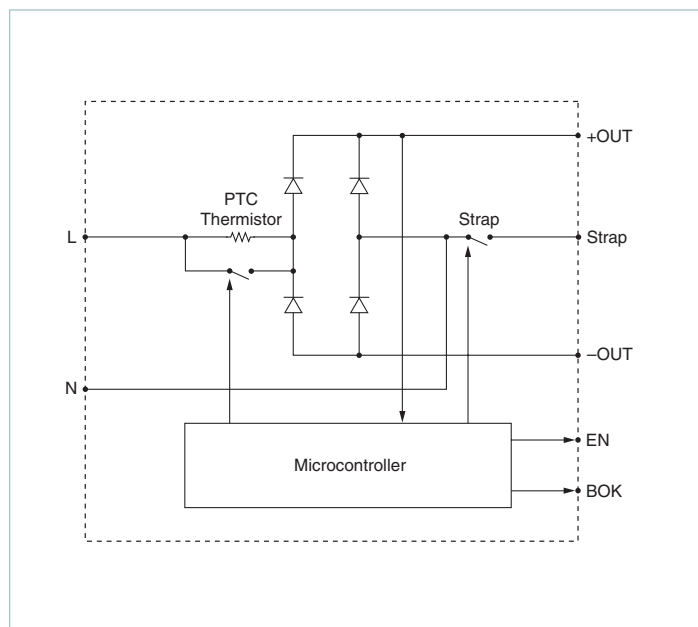

Figure 8 — Functional block diagram
Initial Conditions: The switch that bypasses the inrush limiting PTC (positive temperature coefficient) thermistor is open when power is applied, as is the switch that engages the strap for voltage doubling (see Figure 8). In addition, the downstream DC-DC modules are disabled via the Enable (EN) line, and Bus-OK (B OK) is high.